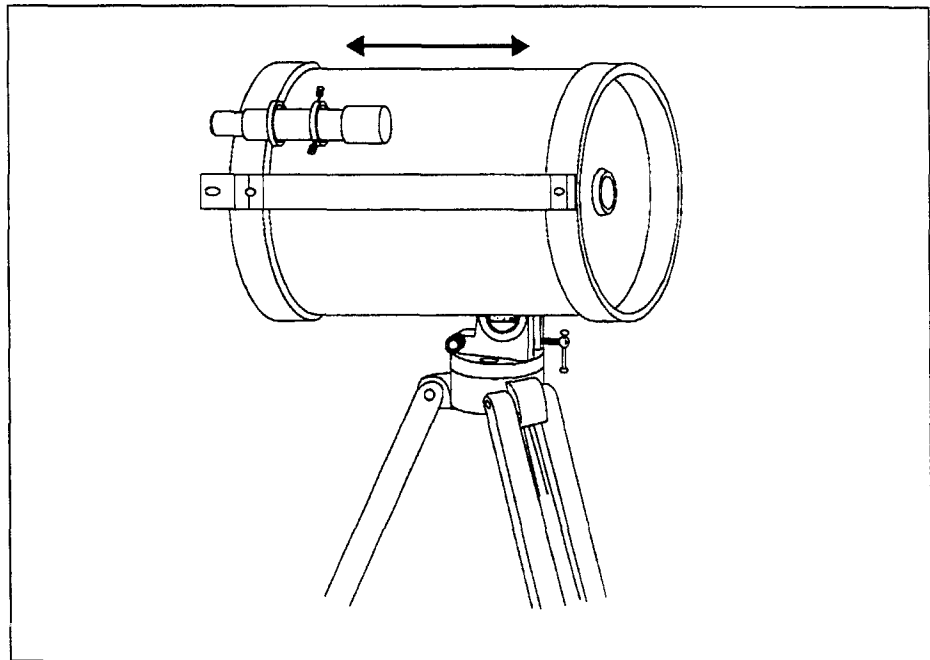

Figure 2-14
3. Release the DEC clamp and rotate the telescope until the tube is parallel to the ground (see figure 2-14).